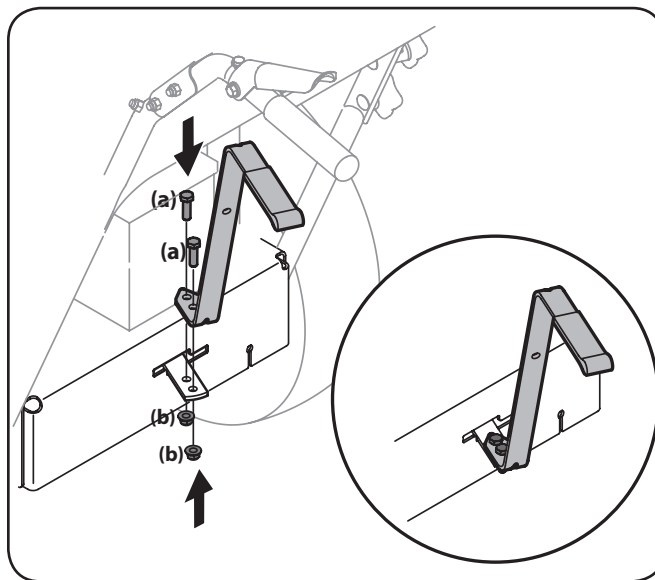

Figure 3-6
3. Position the upper shift lever into a vertical position aligning the holes in the lever with the holes in the shift plate. See Figure 3-6.
4. Secure the lever to the plate using the two screws (a) and two nuts (b) removed in Steps 1 and 2. See Figure 3-6 inset.